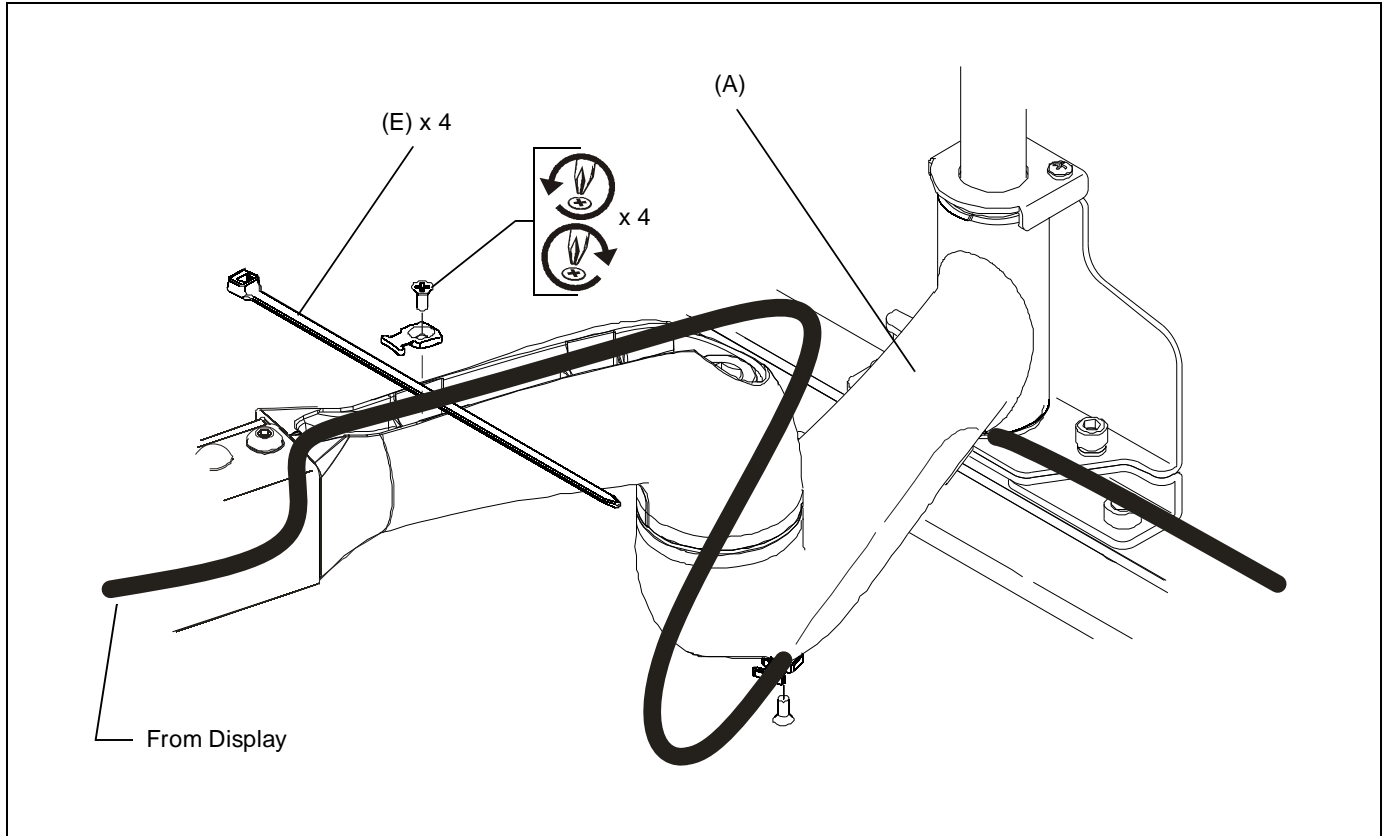

Figure 8
1. Loosen front and rear cable clamps on top arm. (See Figure 8)
2. Thread cable ties (E) under cable clamps and secure clamps to top arm. (See Figure 8)
3. Route power/audio/video cables through the cable channel in top arm (See Figure 8), allowing sufficient slack in cables for left/Right movement of display and swing arm and also swing arm extension and retraction.
4. Secure cables to top arm using two cable ties (E).